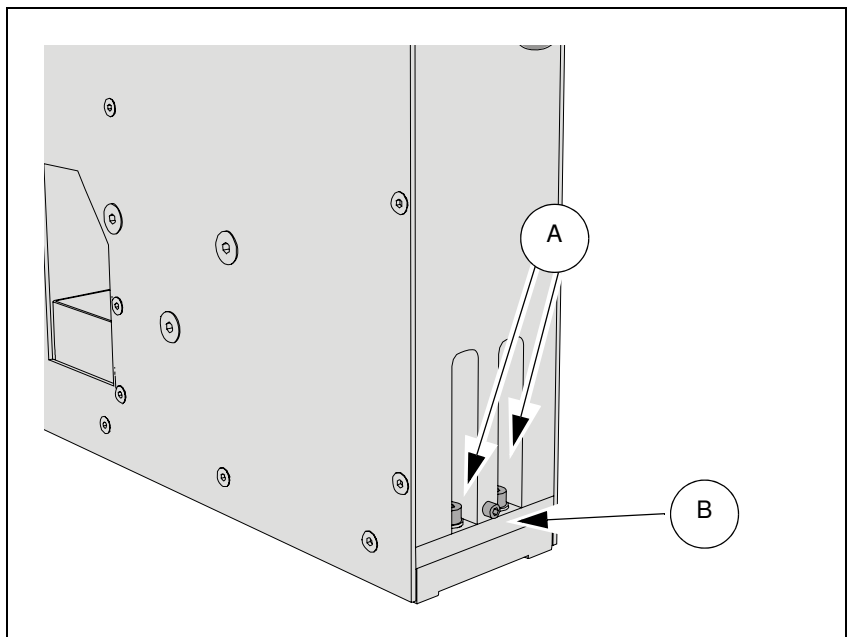

Figure 9-7. Adjust camera Y-position.
2. Loosen the two screws located at the front of the camera box ('A' in Figure 9-7).
3. Adjust the Y position of the camera with screw (B). By turning the screw clock-wise the camera will move towards the front of the machine (on the monitor it looks as if the camera is moving downwards). If you want to move the camera towards the rear, turn screw (B) counter-clock wise while pushing gently on the camera.